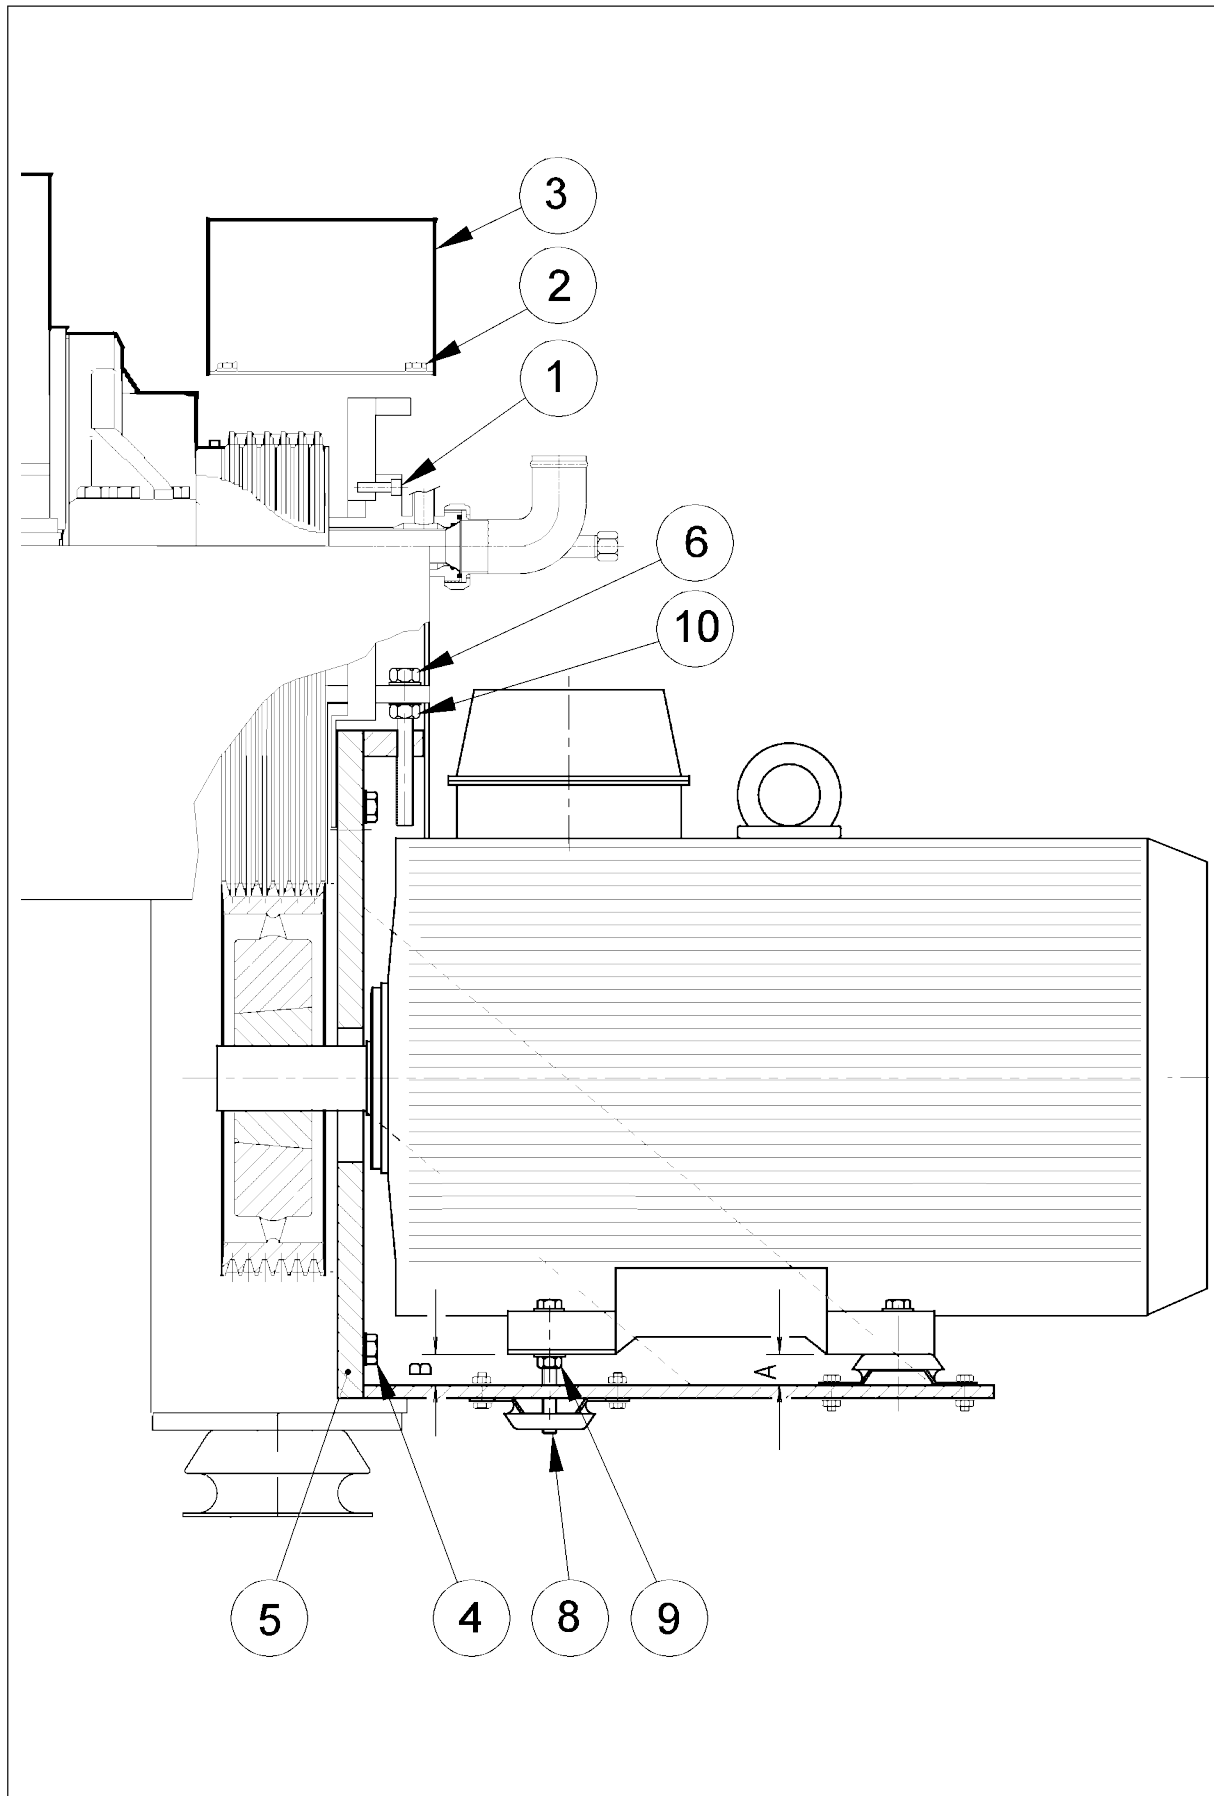

Figure 4.5.1
4.5.1 Disassemble Main Drive (Fig. 4.5.1)
4.5.2 Assemble Main Drive (Fig. 4.5.1)